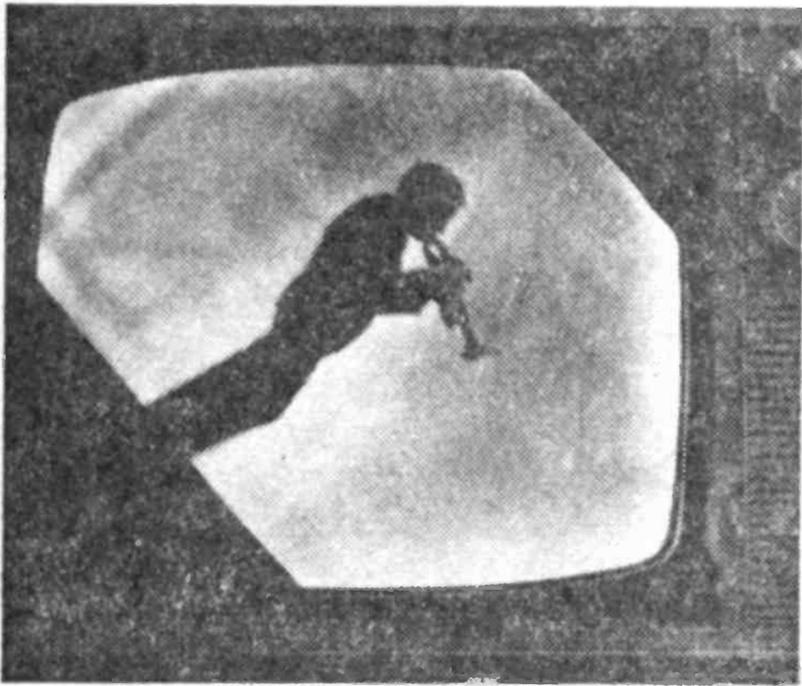
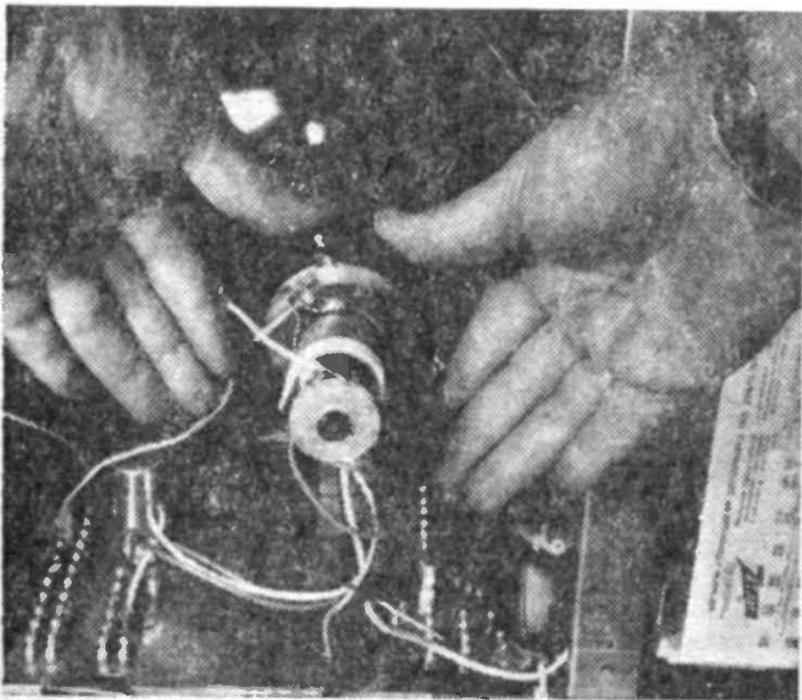

Fig. 13. Tilted picture occurs when yoke has rotated on picture tube neck, usually as a result of set being sharply jarred.
Fig. 14. To adjust yoke, loosen clamp screw, hold only insulated part, and rotate carefully.
**Deflection Yoke.** The deflection yoke is located on the neck of the picture tube. Its purpose is to produce the varying magnetic field necessary to deflect the electron beam vertically and horizontally to produce the scanning raster on the screen of the picture tube. If the yoke is not correctly positioned, a tilted picture will result (see Fig. 13). To correct a tilted picture, first make certain the yoke is positioned as far forward on the neck of the picture tube as the bell will allow, and then rotate the yoke (Fig. 14) until the picture is level. When the yoke is properly positioned, it should be secured